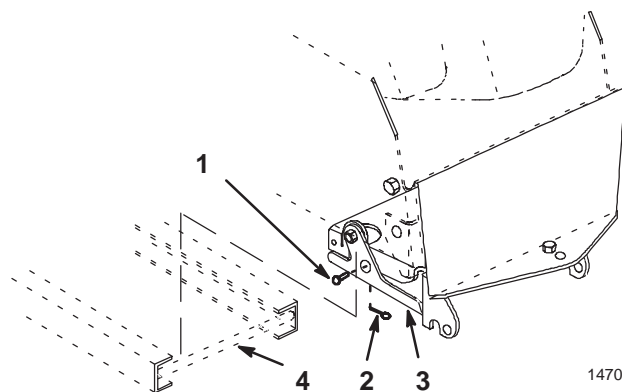

Figure 17
7. Remove the hairpin cottes and clevis pins from the latch levers (Fig. 17).
8. Open the latch levers and lower the frame (Fig. 17).